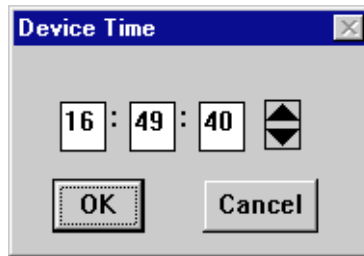

Figure 2-29. The Device Time Window
2. Select **E**dit Device **T**ime. The Device Time change window, Figure 2-29, opens.